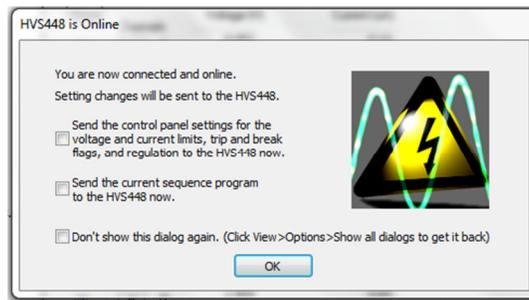

Figure 7. HVS448 is Online Dialog Box
- a. If the HVS448 is brought online after the program is written and saved, you will see the **HVS is Online** dialog box (*Figure 7*). Check the **Send the current sequence program to the HVS448 now** box.